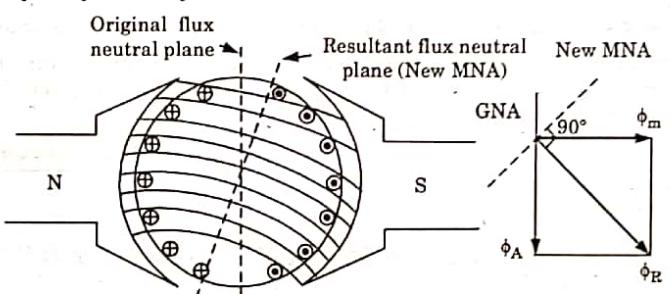

Fig. 2.9.3. Resultant flux distribution.
8. Fig. 2.9.3 shows the condition when the field current and armature current are acting simultaneously. This occurs when the generator is on load.
9. Now there are two fluxes inside the machine, one produced by the main field poles of the generator and the other by the current in the armature conductors. These two fluxes now combine to form a resultant flux  $\phi_R$  as shown in Fig. 2.9.3.